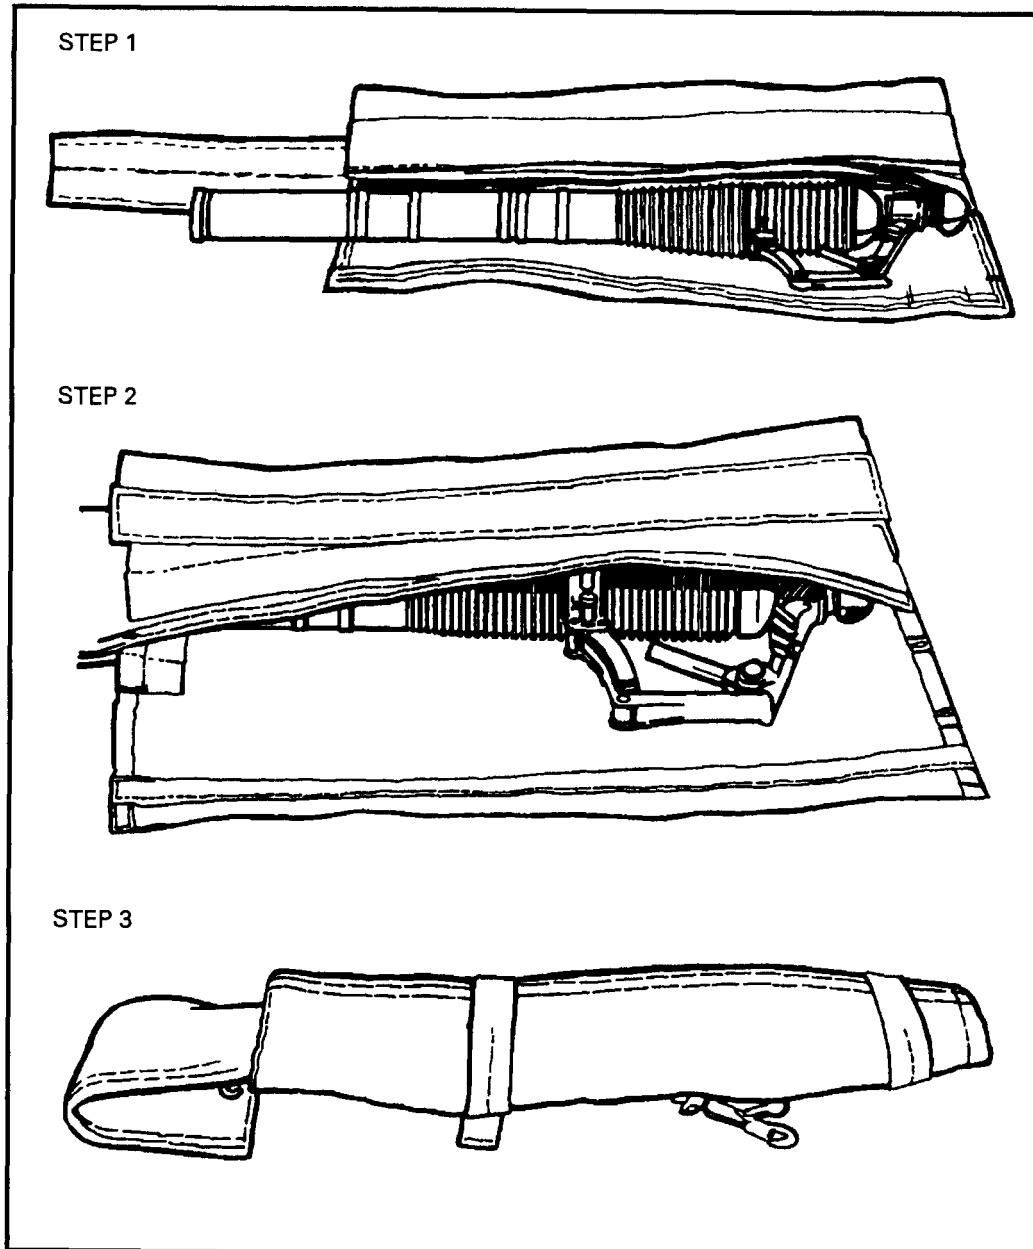

Figure 12-20. Barrel packed.
a. **Gunner.** Place the barrel inside the case, muzzle down. Pack the small baseplate and sight unit inside the ALICE pack. Pad the sight unit with clothing or cellulose wadding to absorb the impact shock. Tandem-rig the pack and case for lowering (Figure 12-20).